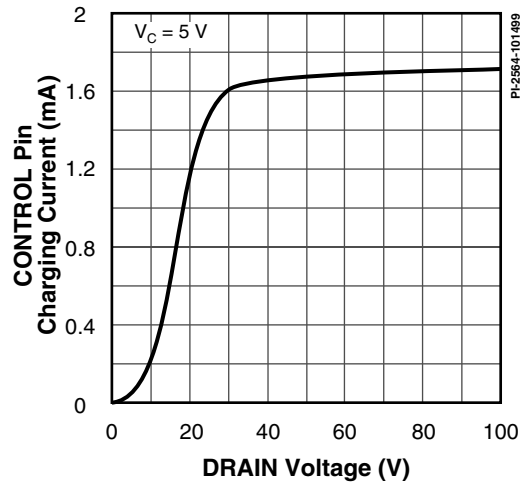

Figure 68.  $I_C$  vs. DRAIN Voltage.
- E. It is possible to start up and operate *TOPSwitch-GX* at DRAIN voltages well below 36 V. However, the CONTROL pin charging current is reduced, which affects start-up time, auto-restart frequency, and auto-restart duty cycle. Refer to Figure 68, the characteristic graph on CONTROL pin charge current ( $I_C$ ) vs. DRAIN voltage for low voltage operation characteristics.